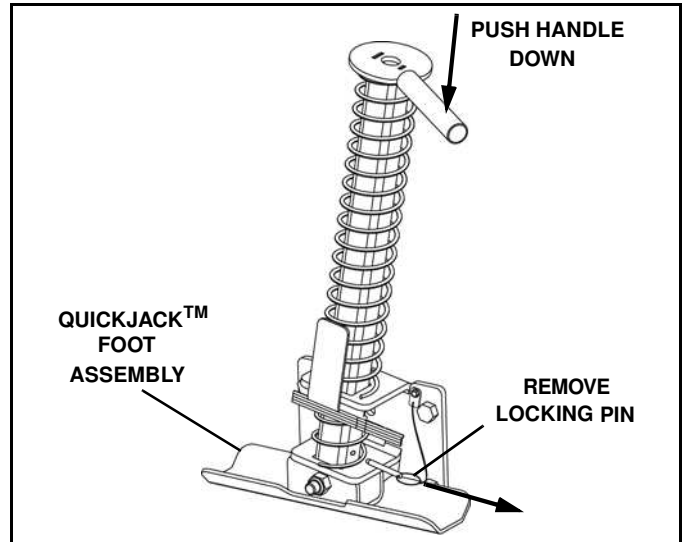

Figure 1-63
3. Remove the QuickJack™ locking pin and push the jackstand handle down to fully lower the foot to the ground. (See Figure 1-63).